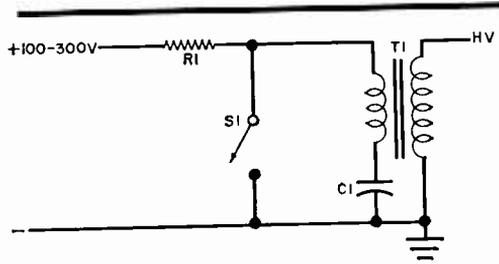

**Fig. 2.** To attain necessary high voltage, doubler and tripler circuits are used in the tube power supplies.
**Energy Supplies.** Between 300 and 600 volts dc are required to power the most common types of flash tubes. A voltage doubler (or tripler) such as that shown in Fig. 2 will serve the purpose well. Since the capacitor must discharge quickly, its internal resistance increases the flash duration and generates heat within the capacitor. Special flash-type capacitors are available, but conventional electrolytic capacitors may